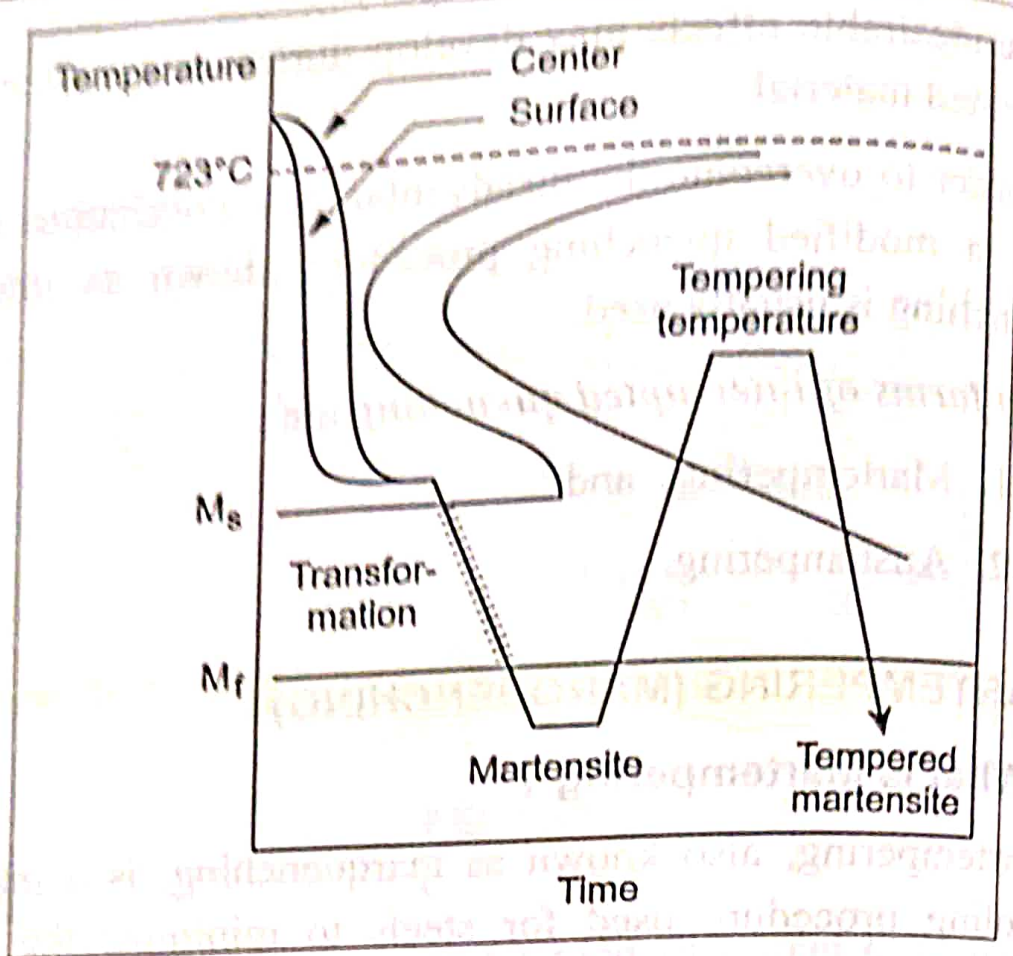

Fig. 2.27. Martempering process
Step 4 : Cooling at a moderate to room temperature (usually in air) to prevent large temperature differences between center and surface. Fig.2.27 shows a cooling path for the martempering process.